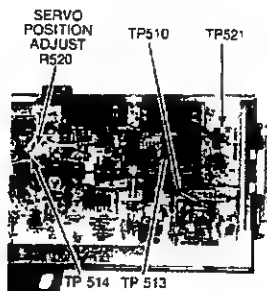

Fig. 4-1. — Servo Position Adjust
2. Connect DVM from TP 513 to TP 514 (Fig. 4-1).